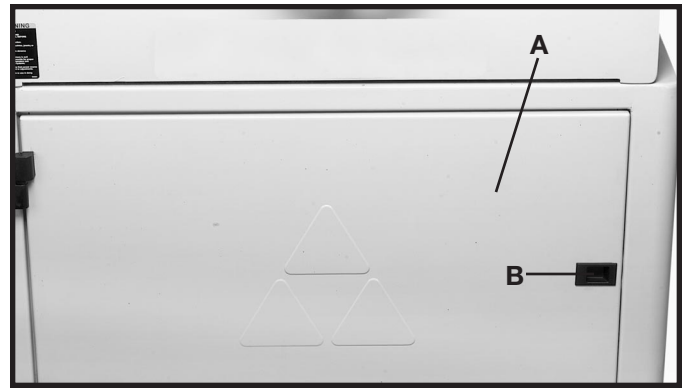

Fig. 1
1. Open door (A) Fig. 1, on front of machine, by sliding latch lock (B) back, and pulling out on door.